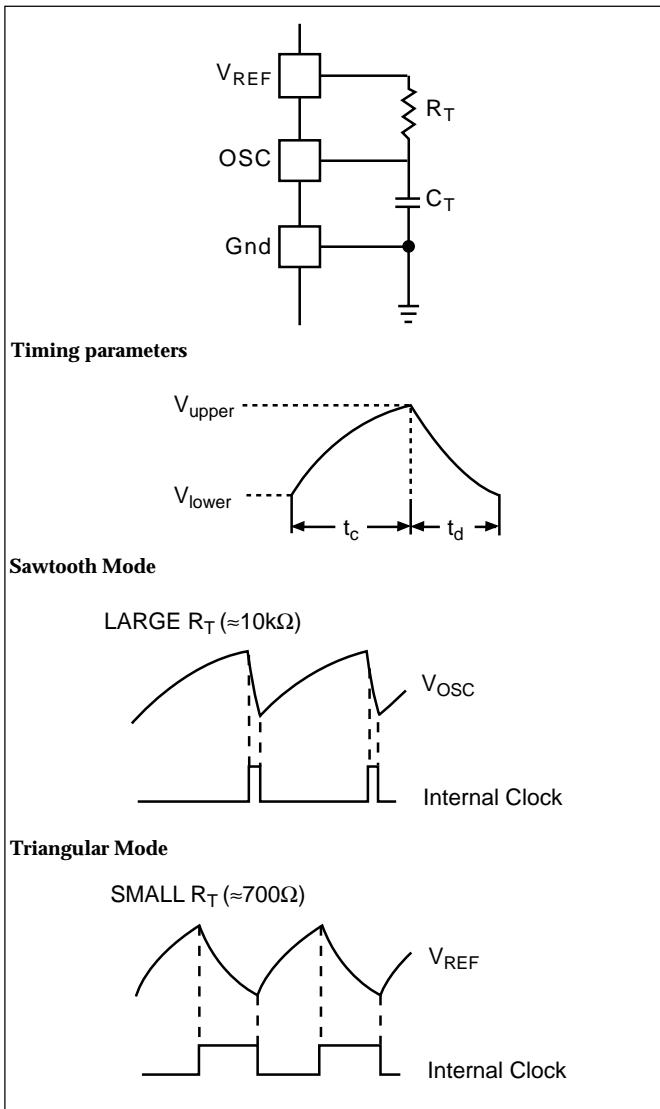

Figure 3: Oscillator Timing Network and parameters
**Electrical Characteristics:**  $-25^\circ \leq T_A \leq 85^\circ\text{C}$  for CS2842A/2843A,  $0^\circ \leq T_A \leq 70^\circ\text{C}$  for CS3842A/3843A.  $V_{CC} = 15\text{V}$  (Note 1);  $R_T = 680\Omega$ ,  $C_T = .022\mu\text{F}$  for triangular mode,  $R_T = 10\text{k}\Omega$ ,  $C_T = 3.3\text{nF}$  for sawtooth mode (see Figure 3), unless otherwise stated.